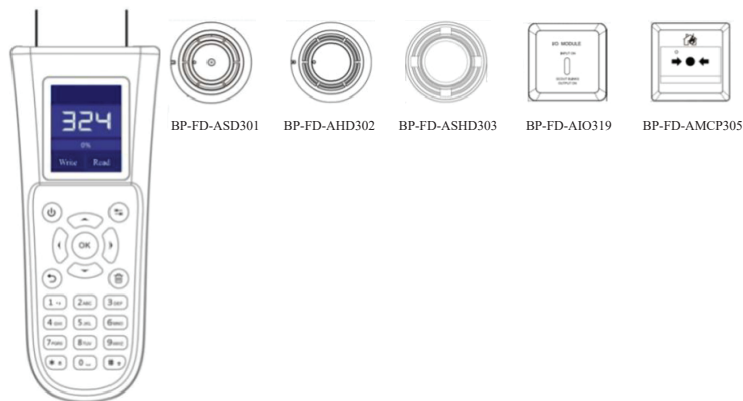

Figure 4-4
(3) Coding probe: directly contact the bus terminal of the addressable devices such as detector, module or sound and light alarm to perform address coding/reading operation. The width of the probe can be adjusted according to the distance of the terminal on the devices. See Figure 4-4: